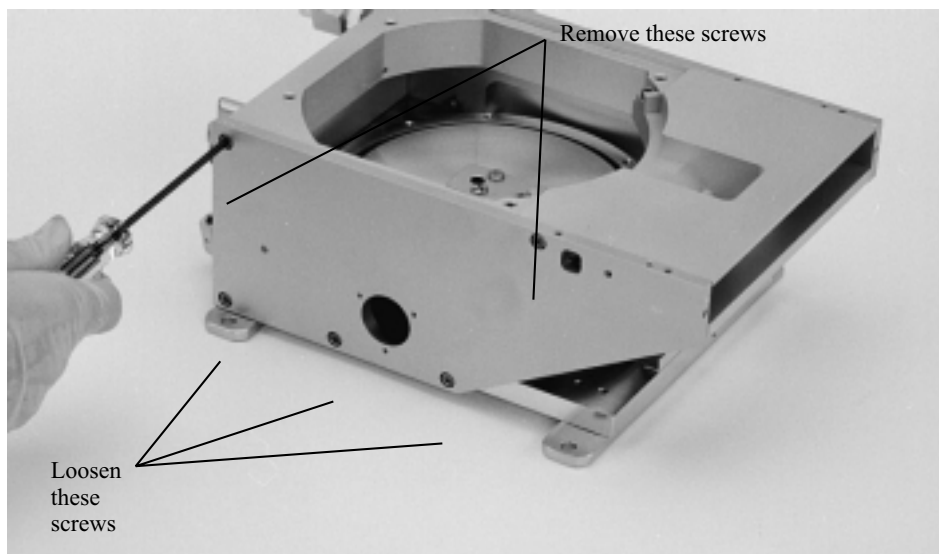

Figure 6-15. Removing the screws that secure the LH pole piece to the coil housing
Step 14: Remove the two 8-32 3/8" screws that secure the left-hand pole piece to the coil housing as shown in Figure 6-15. Then loosen the three screws that secure that pole piece to the source base plate.